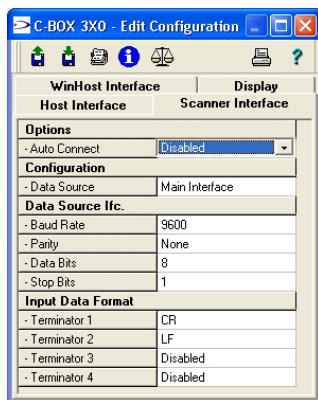

Figure 17 – WinHost Configuration Menu for C-Box 3x0
5. From the SCANNER INTERFACE menu, set **Auto Connect: Disabled** and verify **Data Source: Main Interface** and save the configuration to the C-Box 3x0 (refer to Figure 17);